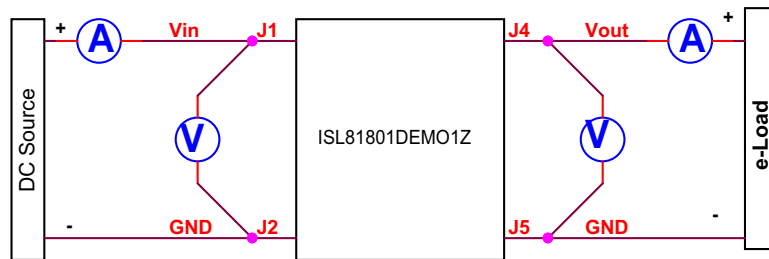

Figure 7. Proper Test Setup
As shown in Figure 7, 32V to 80V V_{IN} is supplied to J₁ (+) and J₂ (-). The regulated 48V output on J₄ (+) and J₅ (-) can supply up to 10A to the load. Because of the high power efficiency, the demonstration board can run at 5A continuously without airflow at room temperature ambient conditions.
1. Jumper J₈ provides the option to select PWM or DEM. Jumper J₉ provides the option to select Constant current limit or HICCUP. See Table 3 for the operating options. Ensure that the circuit is correctly connected to the supply and electronic loads prior to applying any power. See Figure 7 for proper setup.